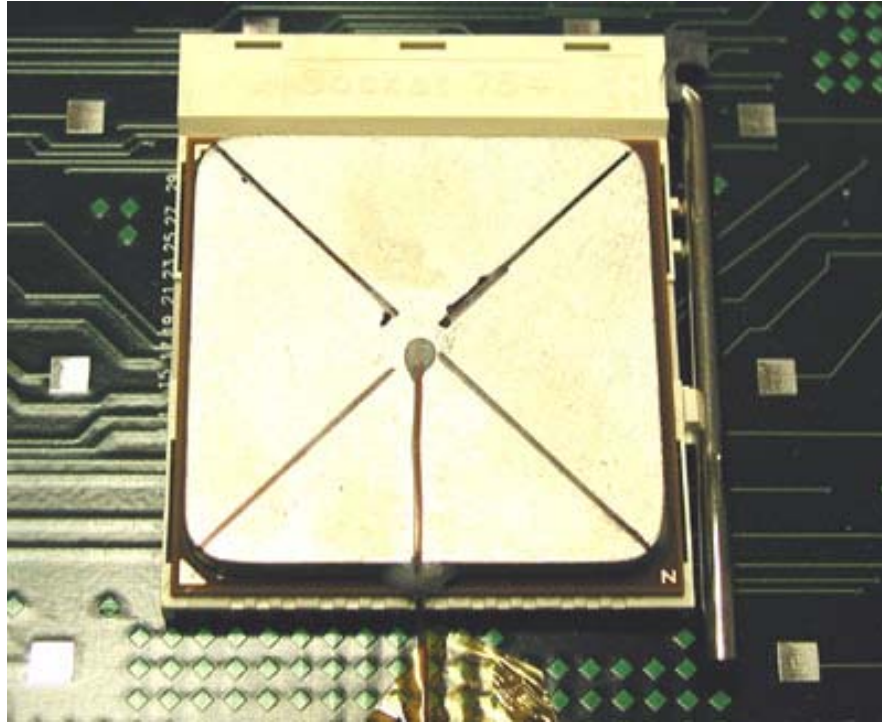

Figure 18. Thermocouple Attached to Processor with Strain Relief on Package and PCB.
- 4) Clean the contact area to achieve good adhesion and apply a small amount of high thermal conductivity epoxy, such as Omegabond 101, to glue down the thermocouple bead and about 2 mm of lead wire. This step provides strain relief for the package as shown in Figure 18 on page 39. Check between the package lid and thermocouple plug for electrical continuity. Without electrical continuity, good thermal contact is not ensured and the attachment procedure must be repeated.